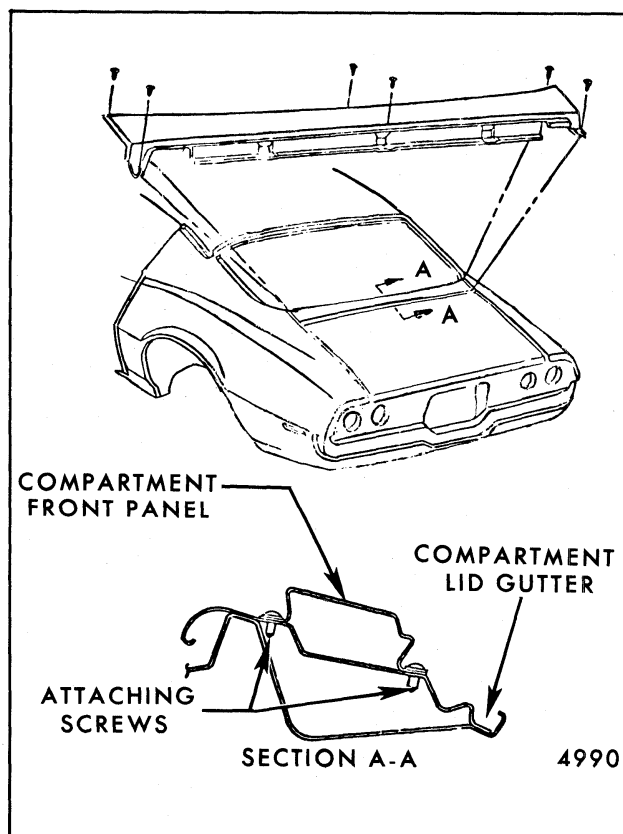
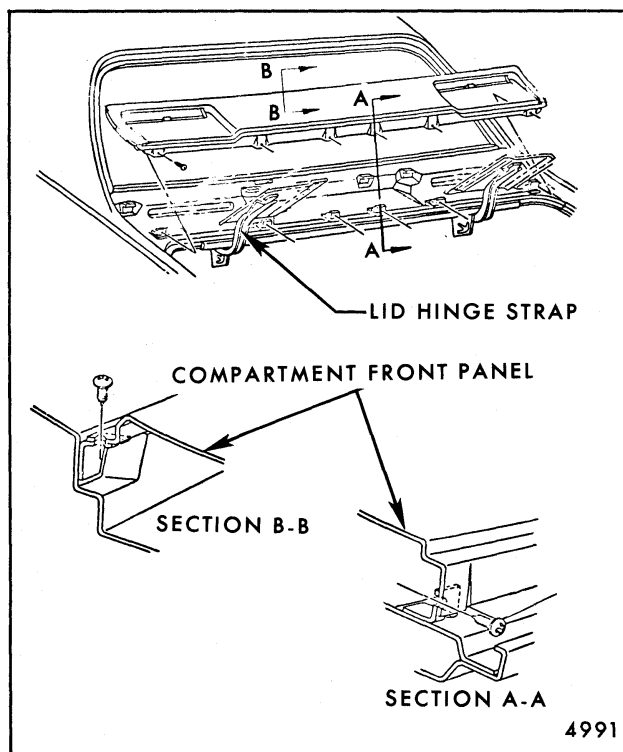
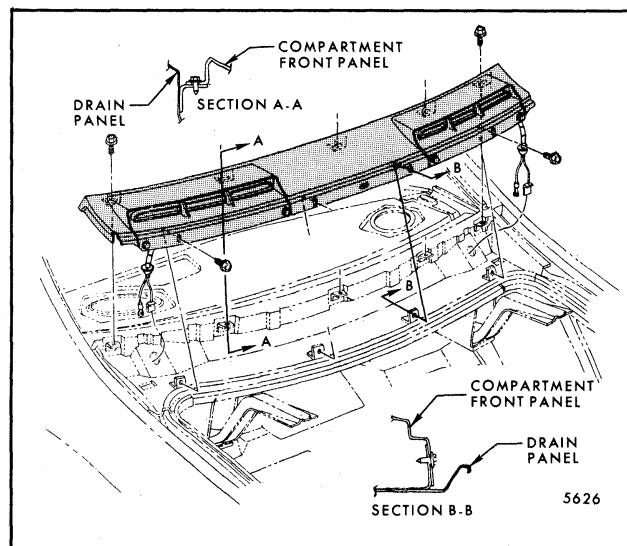

Fig. 7-48-Rear Compartment Front Panel - "F" Styles
Fig. 7-49-Rear Compartment Front Panel - Oldsmobile "E" Style
Fig. 7-50-Rear Compartment Front Panel - Buick "E" Style
1. With rear compartment lid raised, remove screws from lower edge of panel as shown in Figure 7-48 - "F" styles, Figure 7-49 - Oldsmobile "E" style, Figure 7-50 - Buick "E" style and Figure 7- 51 - "X-69" styles.